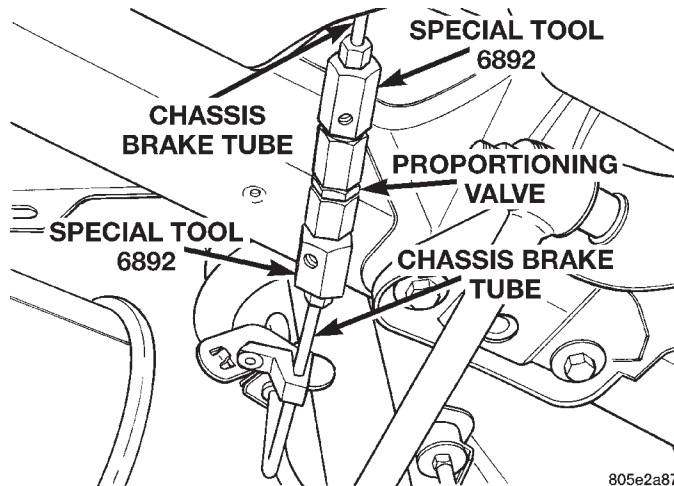

Fig. 22 Pressure Test Fittings And Proportioning Valve Installed
(4) Correctly install Pressure Test Fittings, Special Tool 6892 into the inlet and outlet ports of the proportioning valve.
(5) Install the proportioning valve and the Pressure Test Fittings, Special Tool 6892 as an assembly (Fig. 22) back into the chassis brake tube.